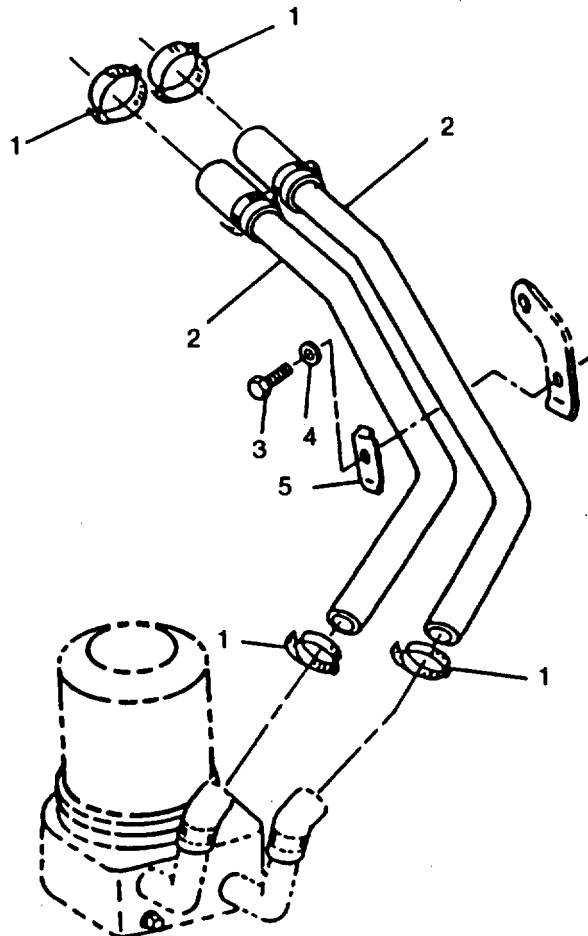
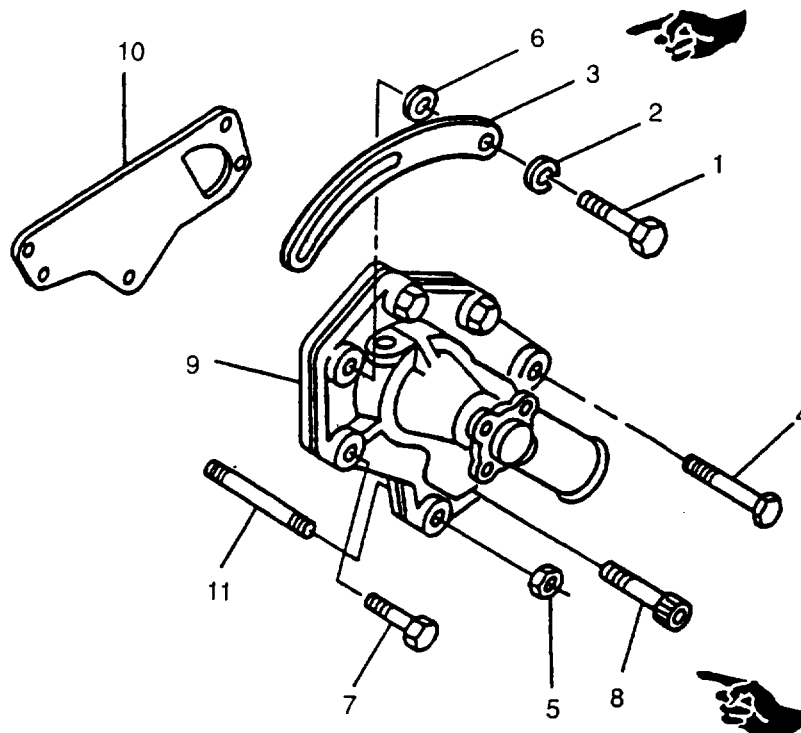

FIGURE 3-3. Engine Oil Cooler Hoses
FIGURE 3-4. Water Pump Assembly
- c. Loosen four hose clamps (1, FIGURE 3-3) and disconnect cooler hoses (2) at water pump.
- d. Remove screw (3) and washer (4) and remove clamp (5). Disconnect and remove hoses (2).
- h. Remove capscrew (1, FIGURE 3-4), lockwasher (2), and washer (6) attaching alternator adjusting strap (3); move strap out of the way. Discard lockwasher.
- b. Inspect pump housing and stud (1), FIGURE 3-4) for cracks, corrosion, or any other damage.
- b. Position new gasket (10, FIGURE 3-4) and water pump (9) on engine block and secure with socket head capscrew (8), capscrews (7 and 4), and nut (5). Tighten fasteners to 35 ft-lbs (47 Nm).
- c. Position alternator adjusting strap (3) and secure with capscrew (1), washer (6), and new lockwasher (2). Tighten capscrew to 35 ft-lbs (47 Nm).
- g. Install two oil cooler hoses (2, FIGURE 3-3) and secure to water pump and engine oil cooler with four hose clamps (1). Install clamp (5) with screw (3) and washer (4).